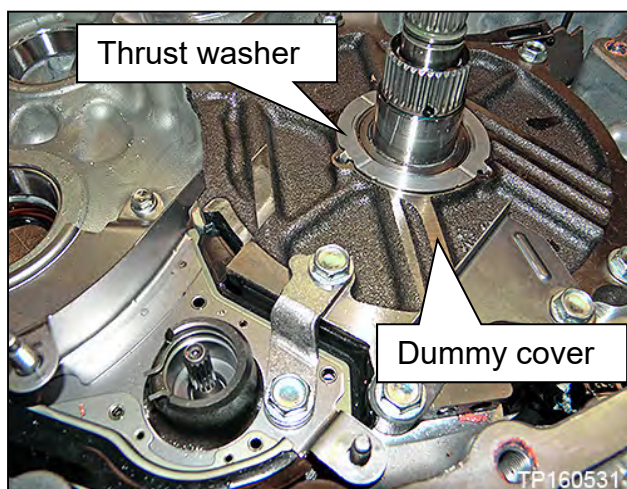

Figure 42
24. Remove the “Pump cover” (dummy cover) thrust washer (Figure 42).